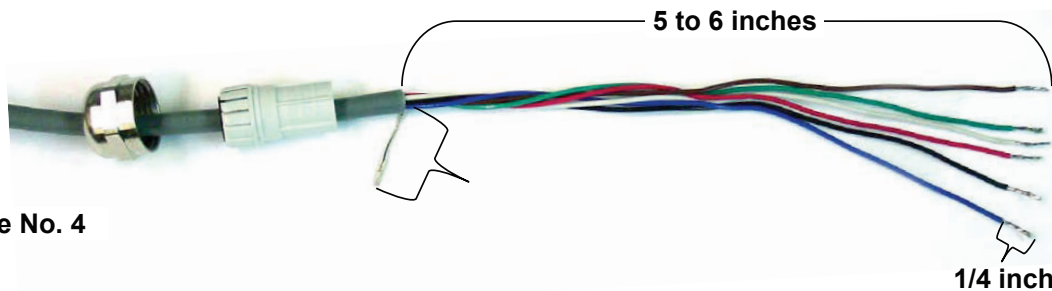

Figure No. 4
4. With the load cell cable routed into the enclosure, refer to Figure No. 4 and then remove approximately 5 to 6 inches of the outer insulating jacket from the cable exposing the internal wires.
4. Referring to Figure No. 4, remove 3 inches (not 5 to 6 inches) of the outer insulation jacket